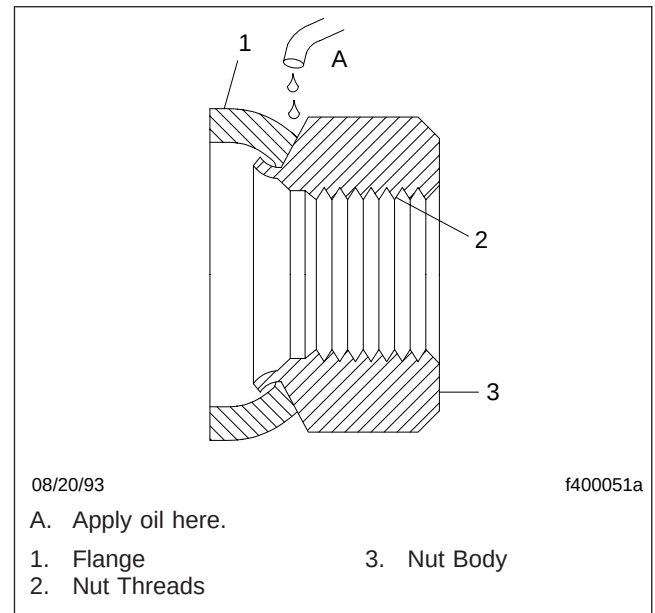

Fig. 1, Two-Piece Flange Nut
4. Apply a few drops of light engine oil to the wheel studs, the area between the body and the flange of each nut, and the hub pilot. Wipe off any excess oil. See Fig. 1 for lubrication of the two-piece flange nuts.